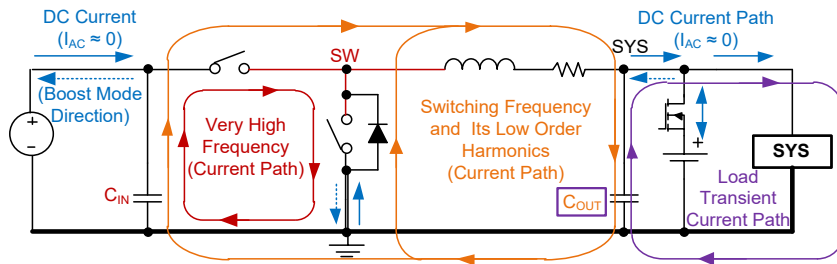

Figure 18. The Paths and Loops Carrying Very High Frequency, High Frequency and DC Currents (for Layout Design Consideration)
The switching node (SW) creates very high frequency noises several times higher than f_{sw} (1.6MHz) due to sharp rise and fall times of the voltage and current in the switches. To reduce the ringing issues and noise generation, proper layout is important to minimize the current path impedance and loop area. A graphical guideline for the current loops and their frequency content is provided in Figure 18. The following considerations can help making a better layout.